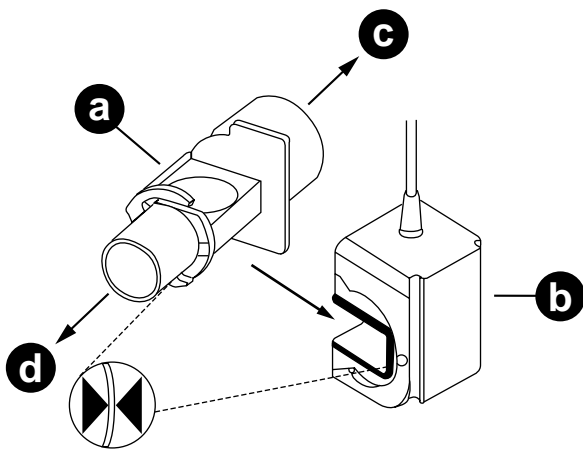

Figure 10-3. Attaching the airway adapter
- Attach the airway adapter to the sensor (the triangles on the airway adapter and on the sensor must be in alignment - Figure 10-3).
- Connect the airway adapter to the respirator system (connector **c** towards the patient, connector **d** towards the respirator - Figure 10-3).